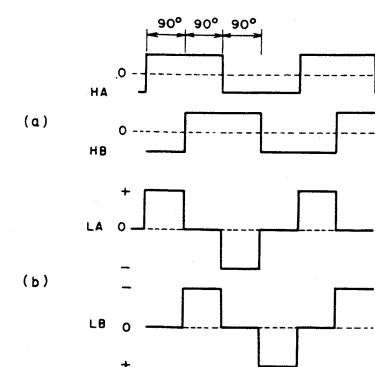

Fig. 10-1 Drive circuit waveforms
- When S1 is turned on, 29V is applied to pin ⑦ of motor drive IC PA2008 (IC2) and the Hall element.
- This voltage is applied to the position signal combination circuit of PA2008, and the waveform is shaped as shown in Fig. 10-1 (a). The signals are further combined to produce a staircase signal such as that shown in Fig. 10-1 (b).